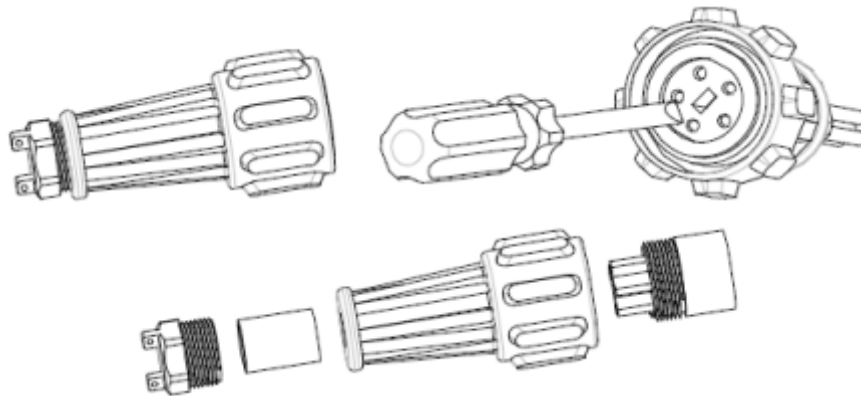

Fig.5.1.4
- 1) Unscrew the AC connector by hand and slotted screwdriver into four components as Fig.5.1.4: